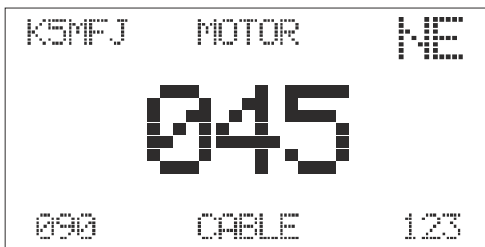

Figure 4 LCD Display
6. The DCU-2 display should look similar to the display shown in Figure 4. The numeric display in the center indicates the current bearing of your rotator. The numeric display in the lower right corner indicates the target bearing that is manually set. The numeric display in the lower left indicates target bearing that is computer set. The character display in the upper right corner indicates the compass heading in "NESW" format. The alphanumeric display in the upper left corner is where the call sign is displayed if programmed. If the center display reads a steady "999", disconnect your control cable and check the cable wiring with an ohmmeter. See the section "Checking the Rotator Resistances from the Ground". Proceed if the cable checks OK. 999 also indicates that the cable may not be not plugged in.